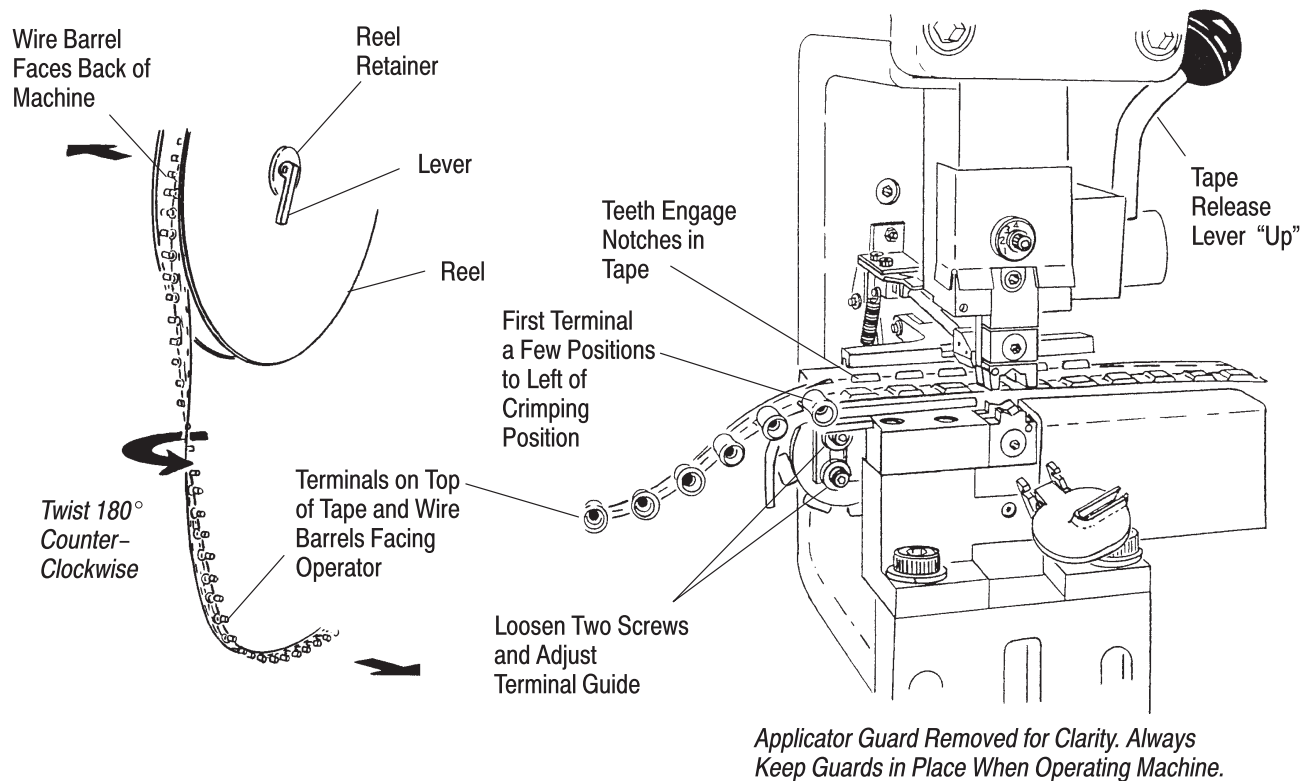

Figure 11
1. Raise reel retainer lever and remove retainer. See Figure 11.
6. Adjust terminal guide to feed product straight into the crimping dies as shown in Figure 11.